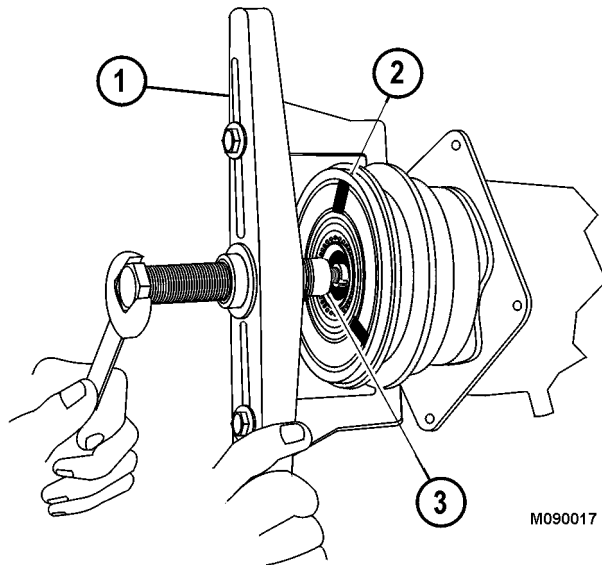

FIGURE 4-23.
9. Install pulley puller (1, Figure 4-23) and puller pilot (3) onto the compressor, as shown. If a multiple groove pulley is used, install puller legs (J-24092) onto the puller in place of the standard legs. Extend the puller legs to the back side of the pulley. DO NOT use the belt grooves to pull the pulley from the compressor.